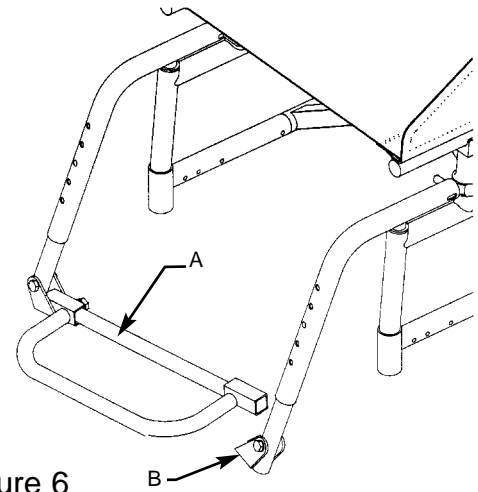

Figure 6
- 6 Lower the footrest bar (A) into position and locate on the retaining pin (B) (see FIG 6).